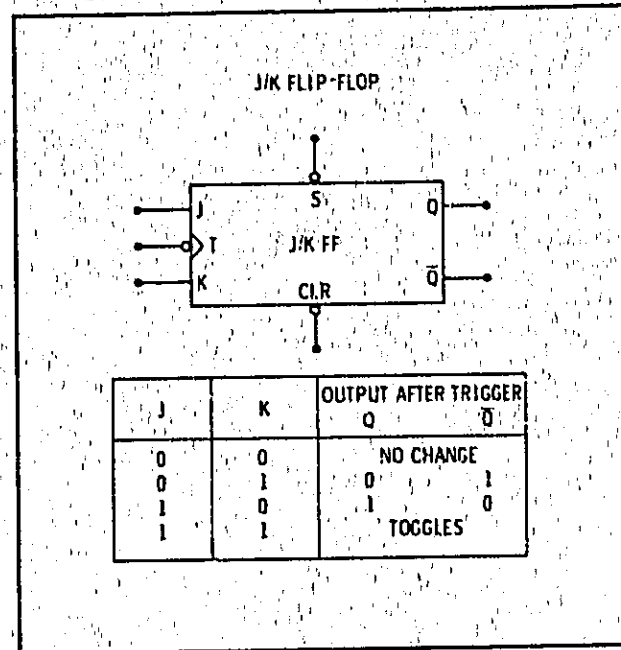

Figure 8-7. J/K Flip-Flop
8-46. J/K Flip-Flop. Figure 8-7 shows a typical J/K flip-flop. The trigger (T) input is activated by a low-going signal as indicated by the circle on the symbol. Flip-flop response is determined by the values of the J and K inputs at the instant that a low-going signal is applied to the trigger input: